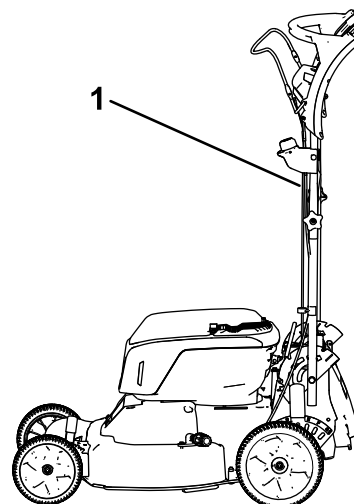

Figure 26
1. Lock the handle in the vertical position (Figure 26); refer to Adjusting the Handle Height (page 12).